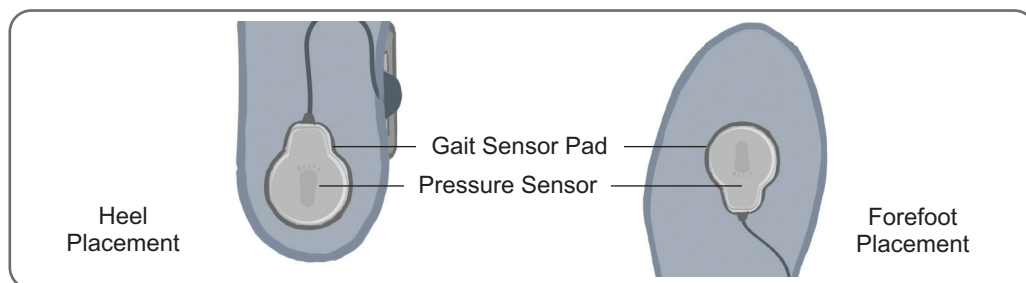

Figure 6-18: Positioning the Foot Sensor in the Shoe
3. For heel position placement, point the wire of the Foot Sensor toward the toe of the shoe. For forefoot position placement, point the wire of the Foot Sensor toward the heel of the shoe. Attach the pressure sensor to the Foot Sensor Pad. See Figure 6-18. Refer to the foot image on the pressure sensor for positioning.